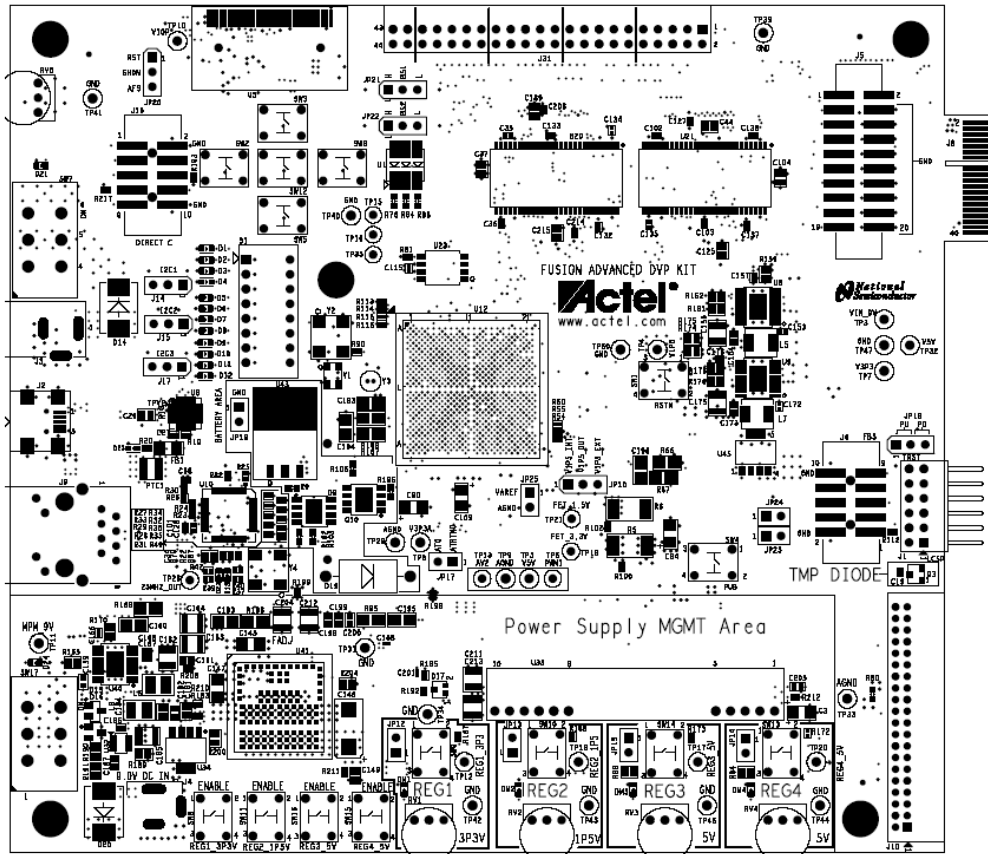
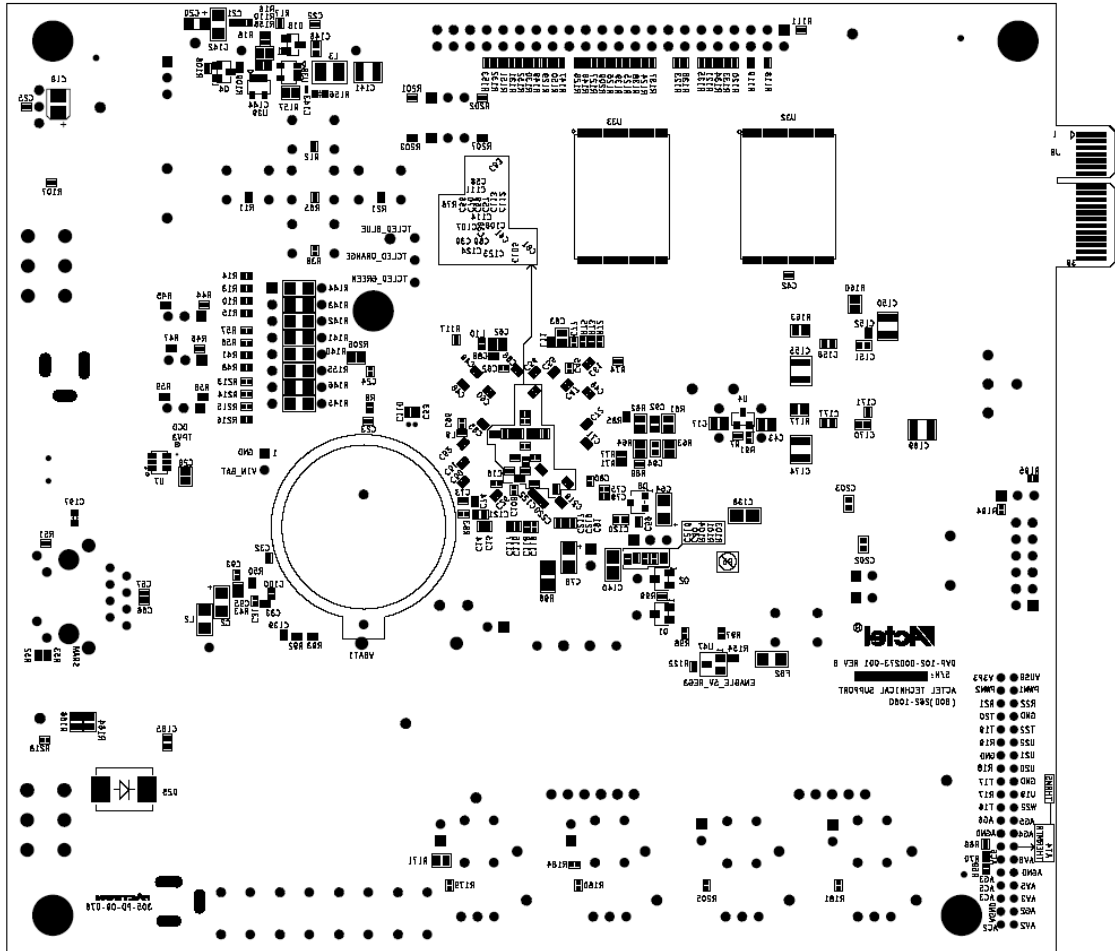

Figure B-1 · Layer 1, Top Silkscreen
Figure B-2 · Layer 10, Bottom Silkscreen
The Fusion Advanced Development Kit board is built on a 10-layer printed circuit board (PCB). The top and bottom silkscreens are provided in Figure B-1 on page 52 and Figure B-2 on page 53. Full PCB design layout is provided in the Fusion Advanced Development Kit page. To view the PCB design layout files, you can use Allegro Free Physical Viewer, which can be downloaded from the Cadence website Allegro Download page:
- Layer 1: Top signal (Figure B-1 on page 52)
- Layer 10: Bottom signal (Figure B-2 on page 53)